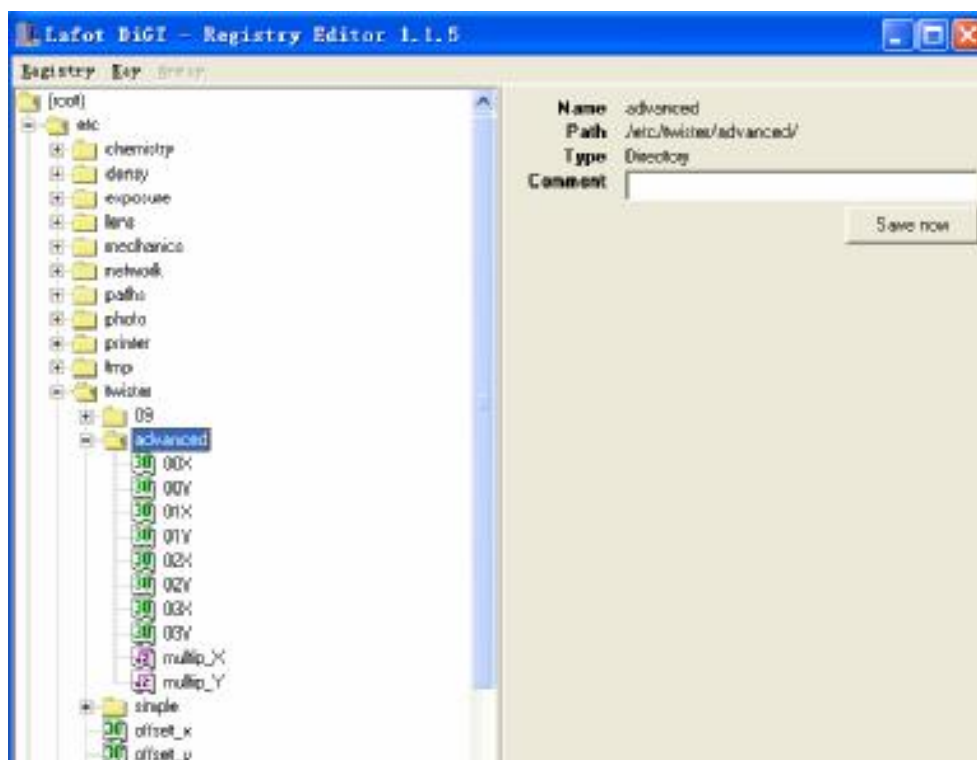

Fig 2.5.2
- Specify `etc/twister/advance` (Fig 2.5.2).